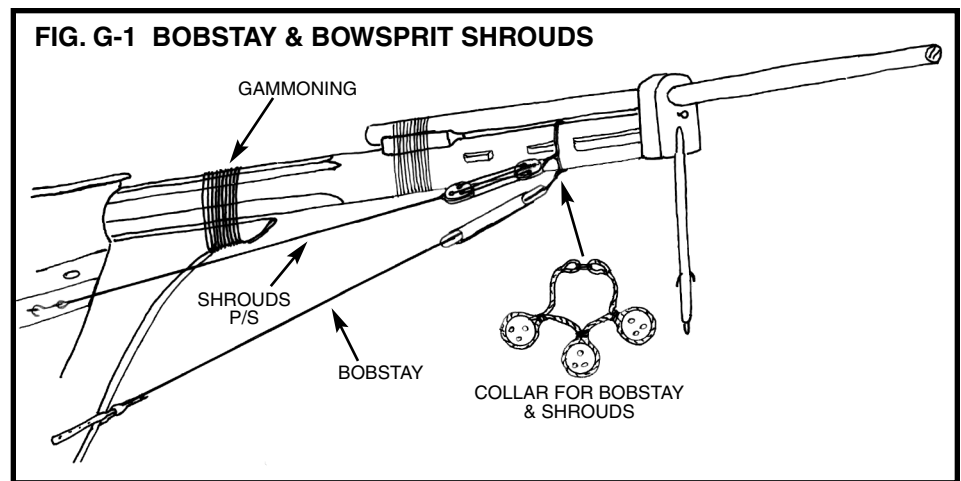

FIG. G-1 BOBSTAY & BOWSPRIT SHROUDS
Begin the standing rigging with the bowsprit. Add the gammoning (0.012" or 0.021" black line), which ties the bowsprit to the stem. Wrap the gammoning neatly, laying each part of the line side by side as it is wrapped. Next, install the bobstay (19), then the bowsprit shrouds (20). Figure G-1 illustrates the rig to this point. Rigging at the bowsprit will be completed while and after installing the head stays. But first, the mast shrouds will be installed since the head stays and all fore and aft stays go over the top of the shrouds at the mastheads.